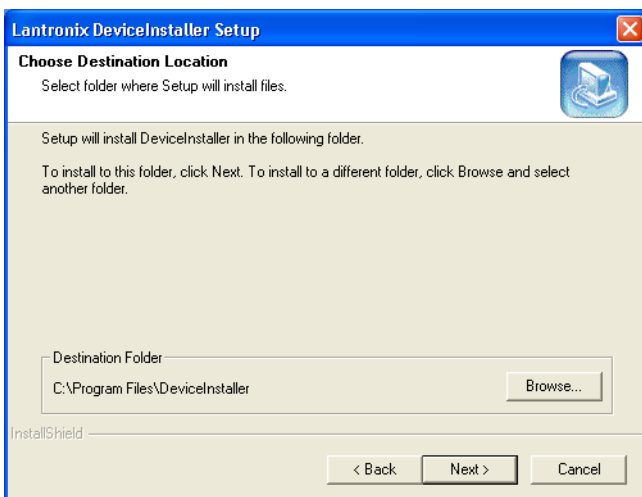

Figure 11: Choose Destination Location
8. Use the scroll bar on the right side of the window to review the DeviceInstaller license agreement. After viewing the agreement, click on the button. The Choose Destination Location window appears (see Figure 11 on page 11).